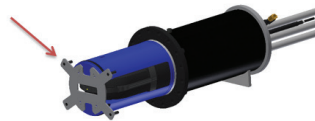

Figure 56
**5.0.14)** Once the cartridge has been inserted to this point, the cartridge alignment plate may be mounted to the bottom of the cartridge with the 3/8" alignment pins fully inserted into the gate housing and the plate flush with the bottom surface of the gate housing (see Figure 56).